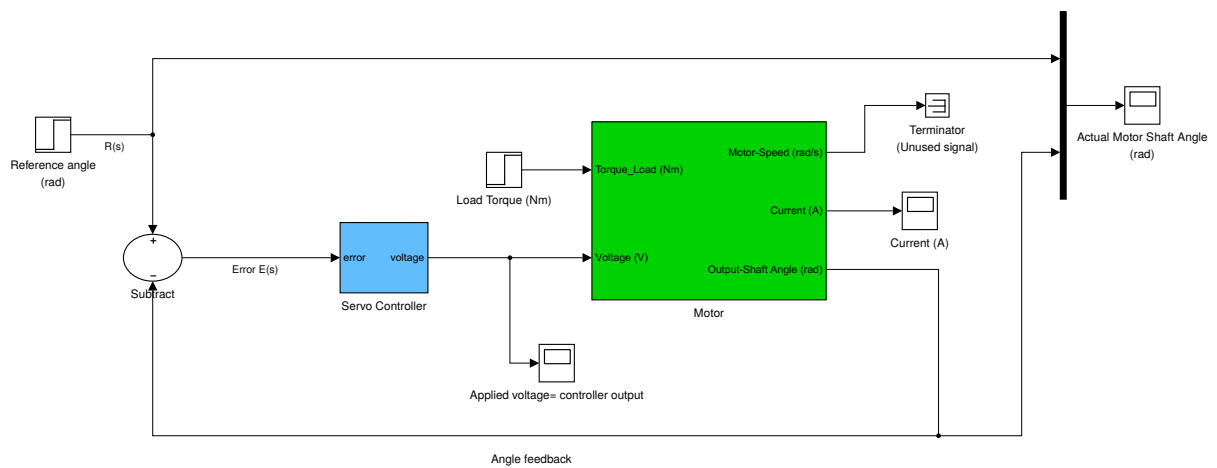

Figure 1.19: The servo controller in Matlab.
**Task 1.26.** Copy the model-file for the PID speed-controller to a new file. Now change the speed-controller to a servo-controller as shown in Fig. 1.19.